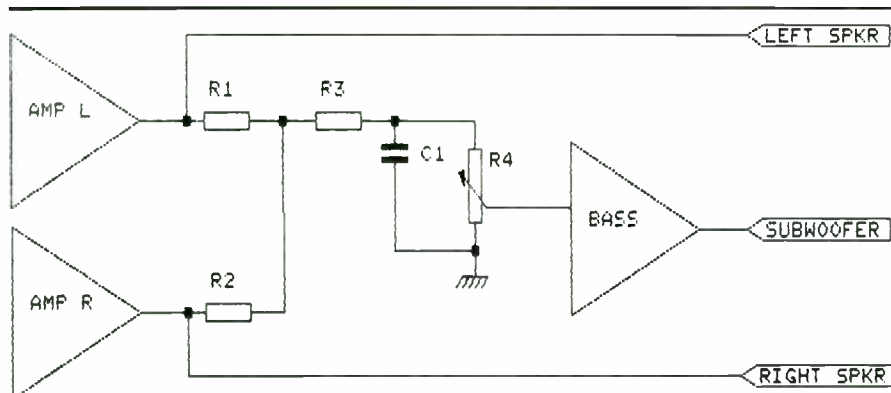

FIGURE 1: Passive center-channel crossover.
2. Figure 1 represents a method in which the stereo signal can be summed at the 16Ω taps of the tubed power amps with R1 and 2; R3 and C1 provide the low-pass crossover and R4 supplies the level control to feed the bass amp. While this method works, again, it is mushy. You are going through those transformers to feed the bass amp, when you really want the signal to be tight. If your satellites are basically okay and you need only a little bass fill, you might like this approach, since the satellites run full range.
Some may look at the power supply (Fig. 4) and scoff at its simplicity. However, it works. The project box I had used for the ideas of Figs. 1 and 2 was too small to house everything, so I mounted the transformer on the outside and crammed everything else inside. You can use a slightly larger box if you start from scratch.